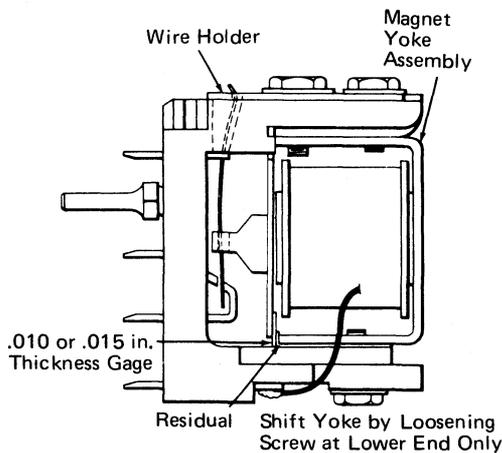

Figure 2-9. Yoke Position
4. Adjust the magnet yoke assembly (Figure 2-9) so that with a .010-inch thickness gage between the armature and yoke at the free end of the armature and the armature attracted, all contact wires make contact on the normally open side. With a .015-inch gage between armature and yoke and the armature attracted, none of the wires are to make contact on the normally open side. This adjustment is obtained by shifting the yoke assembly at the lower end sufficiently so that the wire holder adjustment does not change. If it is necessary to loosen the entire yoke to correct an out-of-parallel condition, the wire holder must be repositioned for proper wire tension. Be sure the residual remains in the proper position.